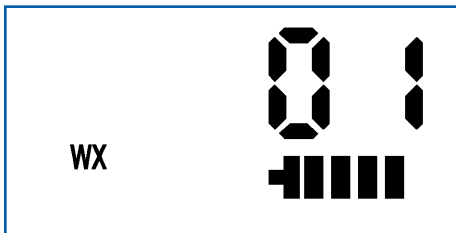
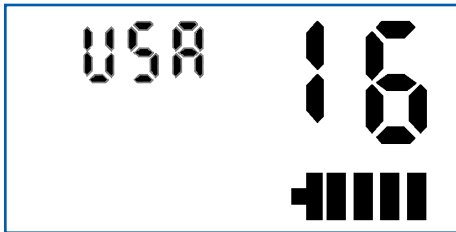

Fig. 10a: Weather Mode Display
Fig. 10b: Marine Mode Display
To listen to the weather channels, press the Weather (WX) key. (Fig. 10a) Press the ▲ or ▼ keys to select the weather channel of interest for your area (generally Channel 01, 02, or 03.) To return to Marine Channel (normal) Mode, press the WX key again. (Fig. 10b)